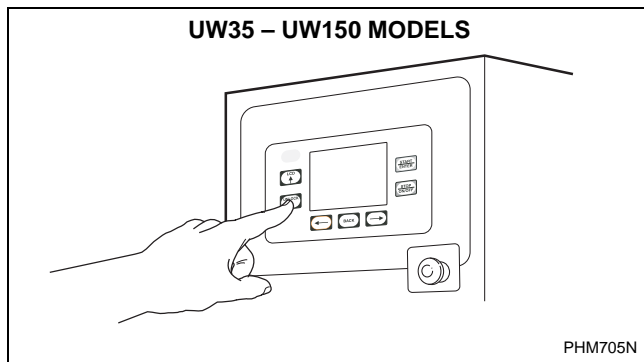

Figure 8
2. On UW35-UW150 models. Press the door unlock button located on the lower left front on the control. Refer to *Figure 8*.
As the cycle proceeds, the display will show a summary of the cycle occurring. Refer to *Figure 8*